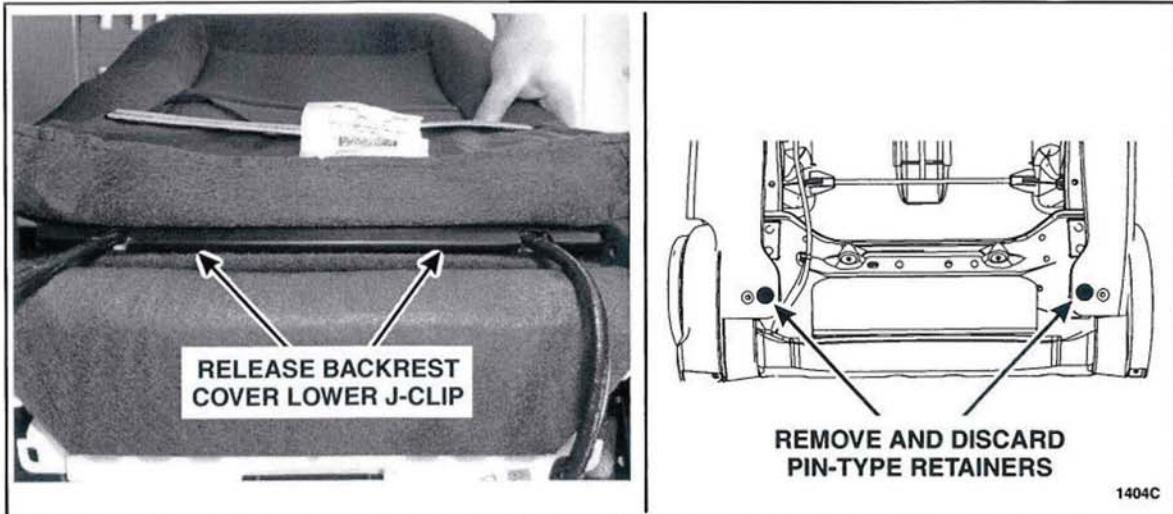

FIGURE 3
5. Release the backrest cover lower J-clip. Remove and discard the two pin-type retainers. See Figure 3.